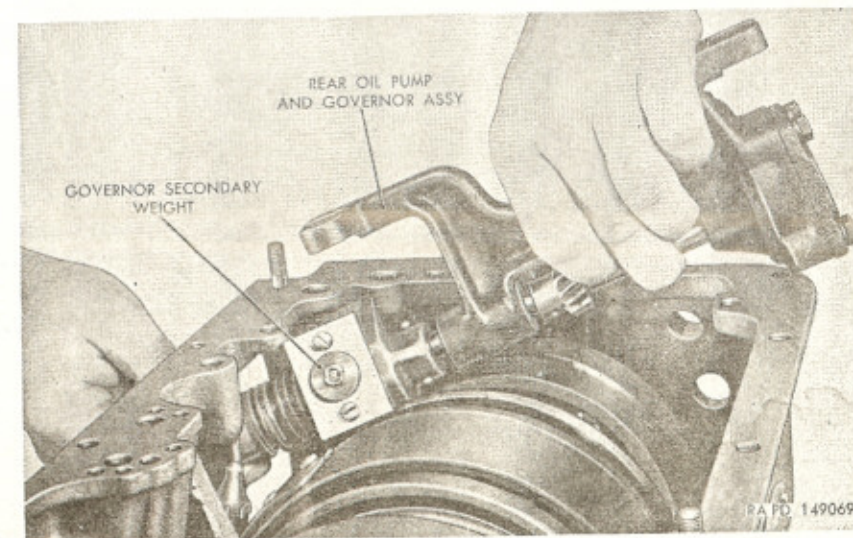

Figure 40. Removing or installing rear oil pump and governor.
c. Position secondary (small) governor weight toward front of transmission; then remove rear oil pump and governor assembly (fig. 40).